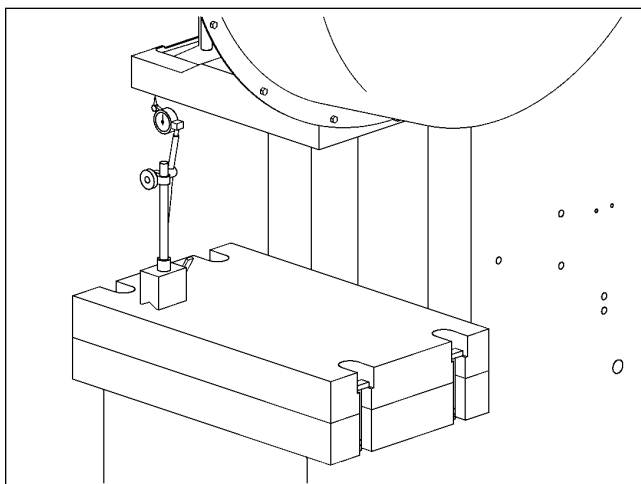

Figure 2F. Checking slide parallelism.
12. While an assistant maintains pressure on the slide, place a base mounted dial indicator between the slide face and bed (or bolster) and set it at the "0" reference mark. Now take readings near each of the four corners of the slide. (See Figure 2F.)